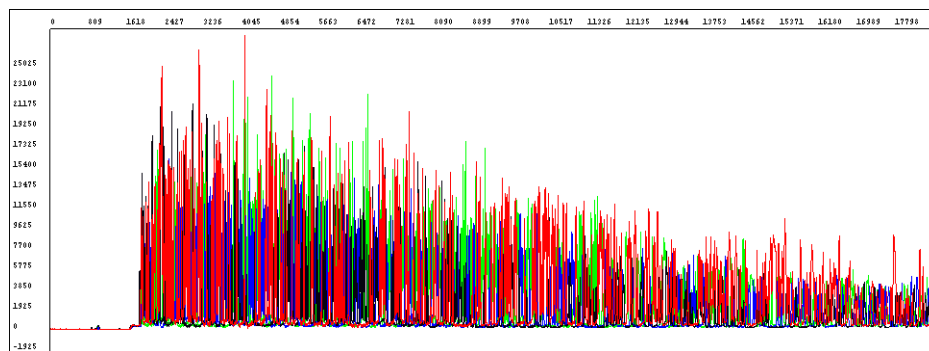

Figure 53. Example of high-quality raw data with tightly resolved peaks from the 3730 Genetic Analyzer.
- **Peak heights**—Are peaks well-resolved, with reasonable heights (Figure 53)? For examples of low or no signal, see pages 147 through 150; for examples of top-heavy data, see pages 160 through 162.